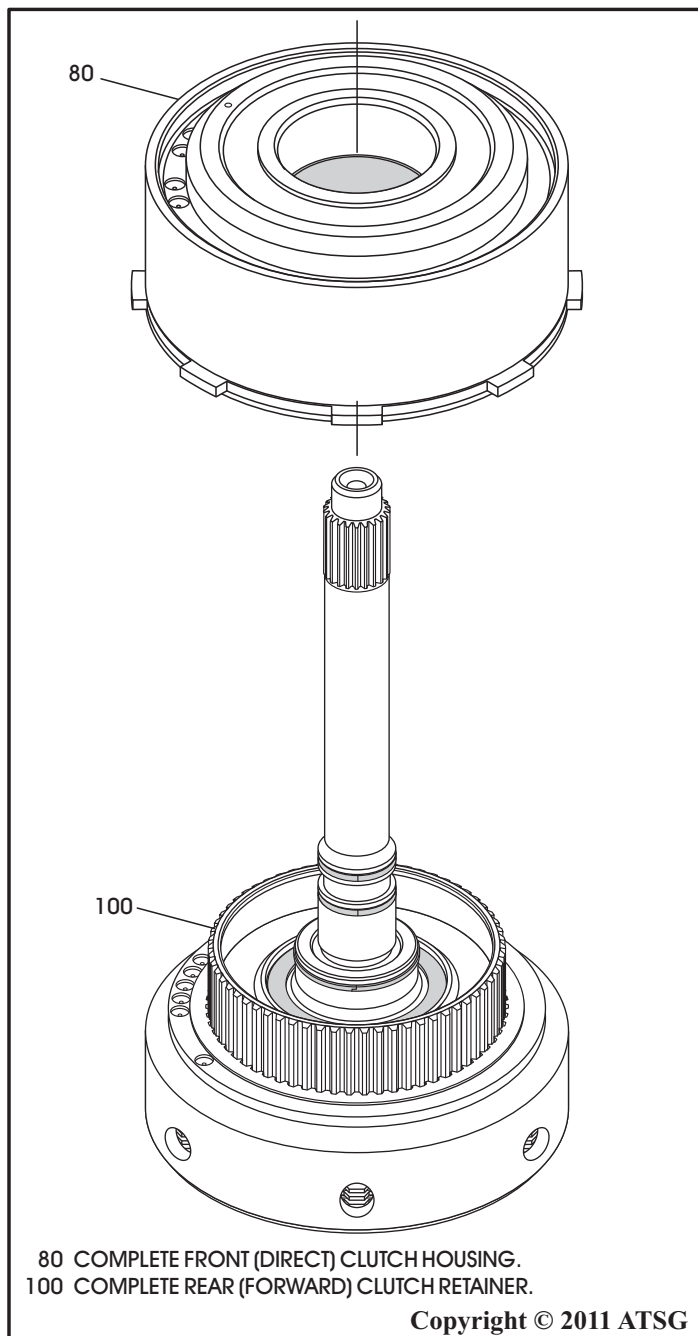

Figure 80
44. Separate the two clutch housings, as shown in Figure 80, and set both aside for the component rebuild section.